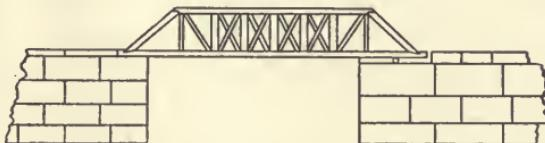

FIG. 128.—Truss bridge showing roller support at one end.
- b. One end of a steel truss bridge is usually supported on rollers so that it can expand and contract with changing temperatures. (See Fig. 128.)